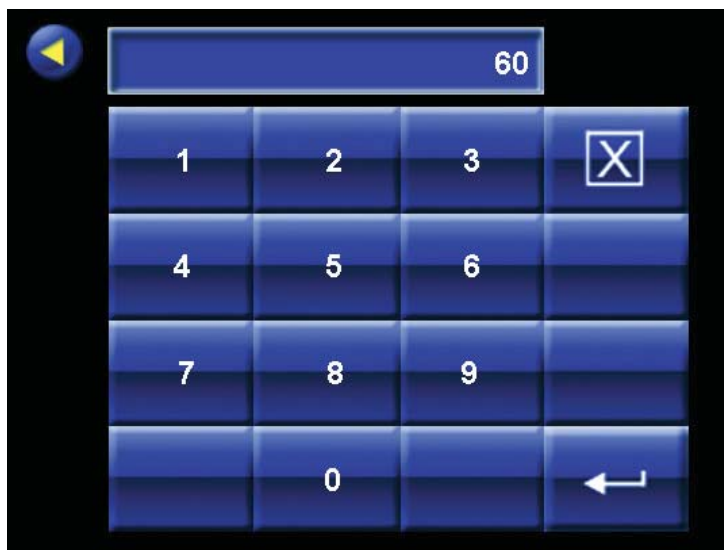

Figure 5-5 Data Entry
The Data Entry screen is shown in Figure 5-5.
- When the '+' button is pressed, the Data Entry screen is displayed in Figure 5-5.